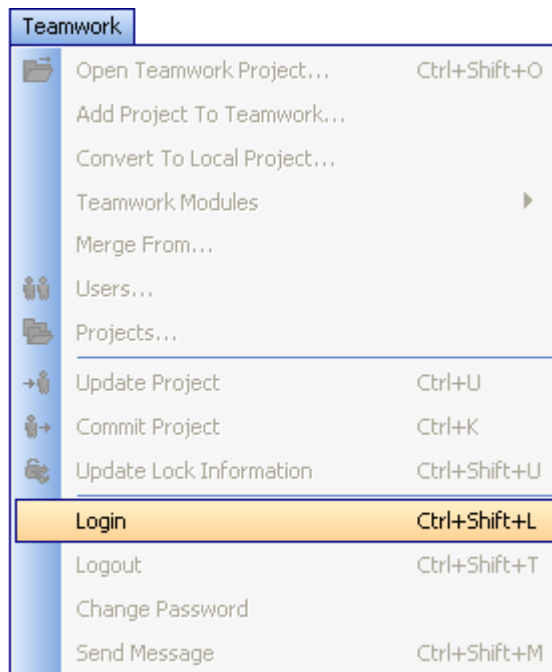

Figure 267 -- TeamWork Main Menu
1. Select **Login** on the Teamwork main menu to log in to Teamwork Server (Figure 267).